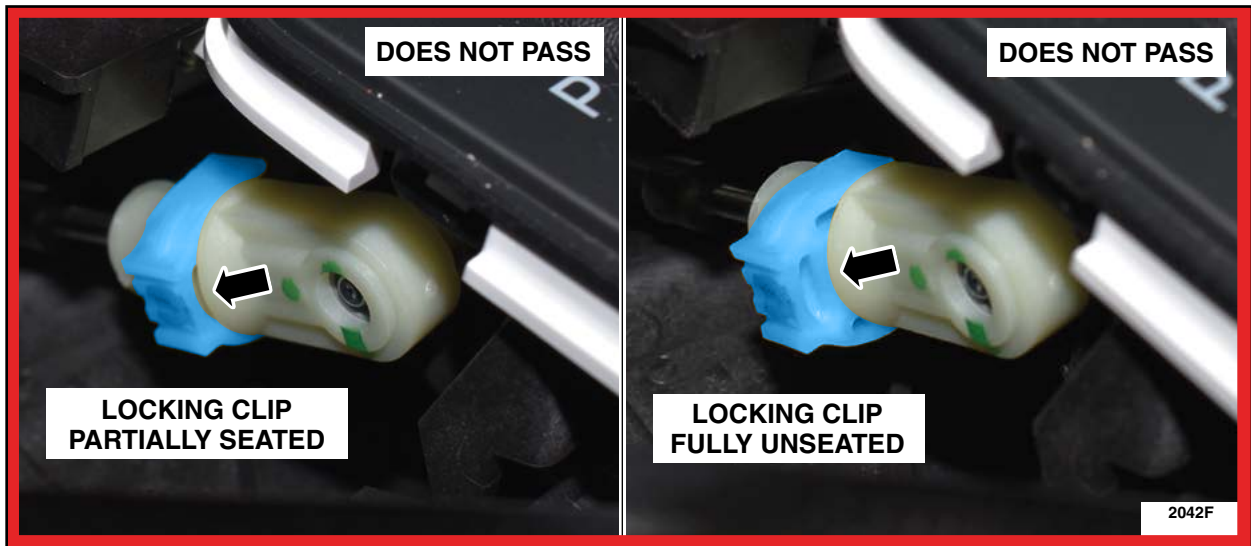

FIGURE 9
- If the cable adjuster locking clip is not fully seated as shown in Figure 9, proceed to Step 11.